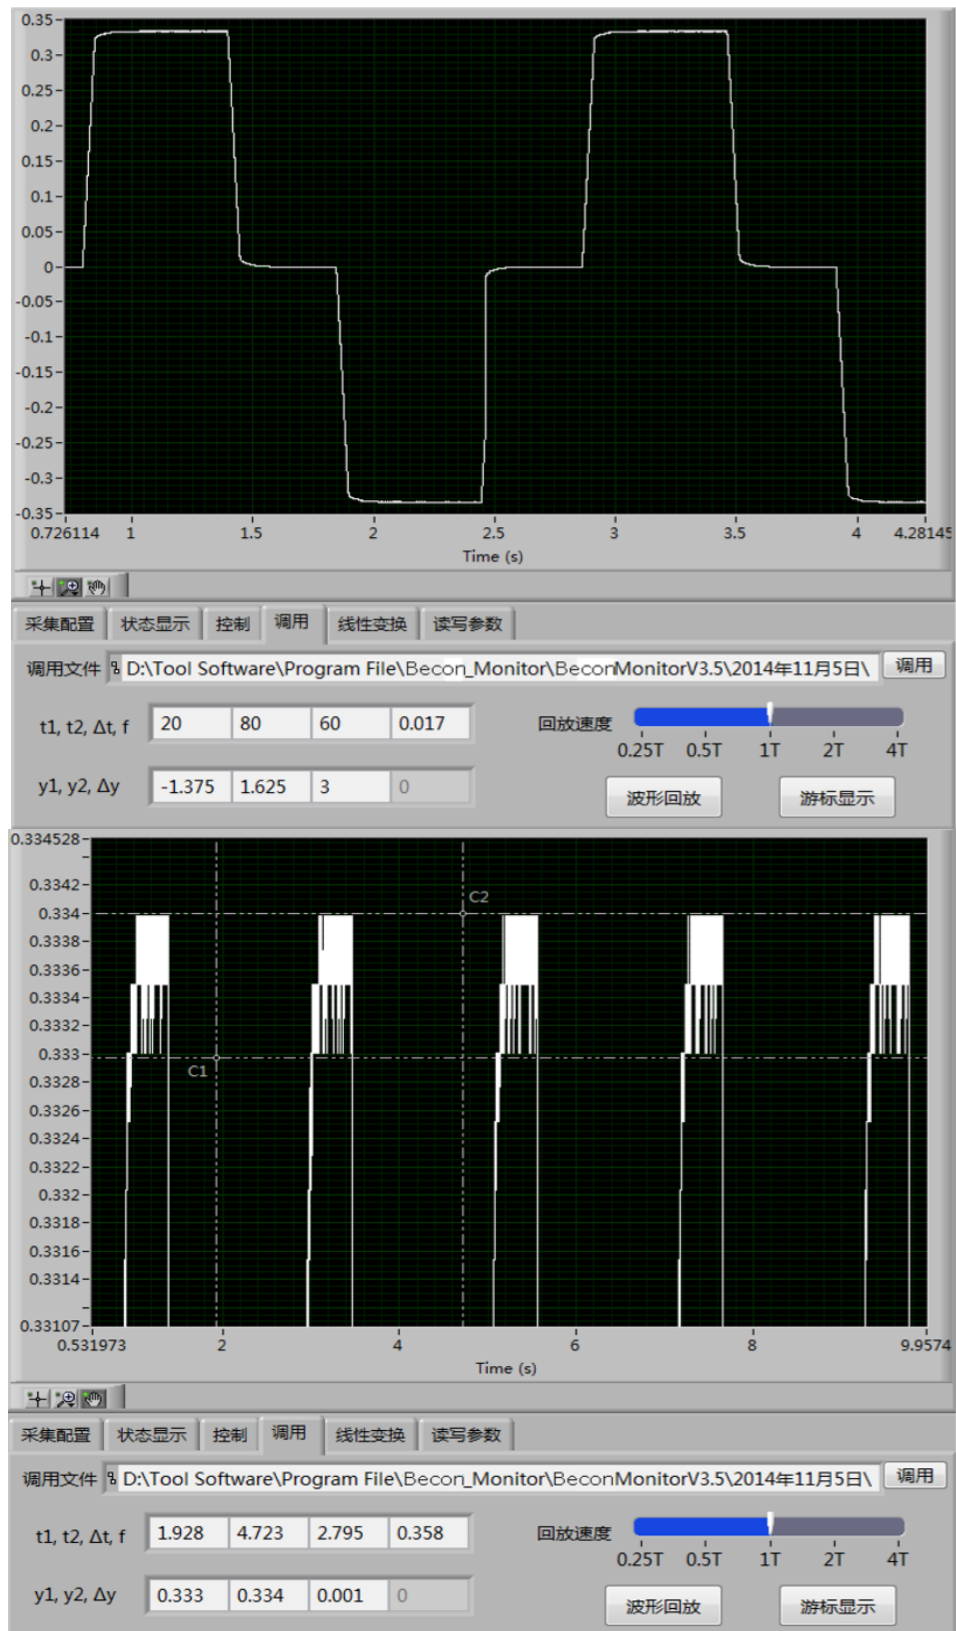

Figure 9.2.3-1 Position Output Curve Asr.Ref
Step 3: Preset position reference Pref (considering mechanical limit) in the control interface of BECON Monitor, make the motor reciprocate within  $\pm$ Pref position, then observe the position loop output in the monitoring interface (speed loop given by Asr. Ref), as shown in Figure 9.2.3-1.